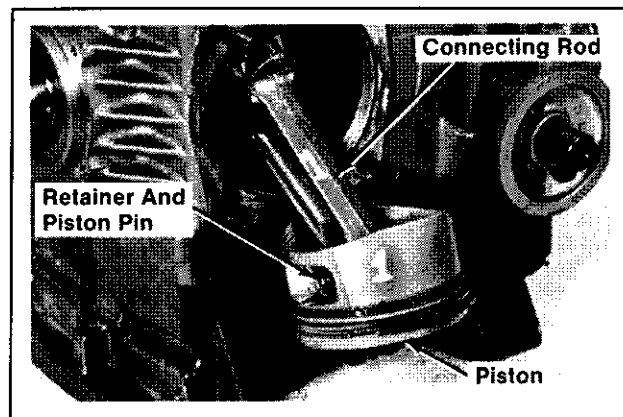

Figure 9-26. Removing Pistons.
1. With a marking pen or paint, mark the pistons and connecting rods as #1 side and #2 side. Refer to Figure 9-26.